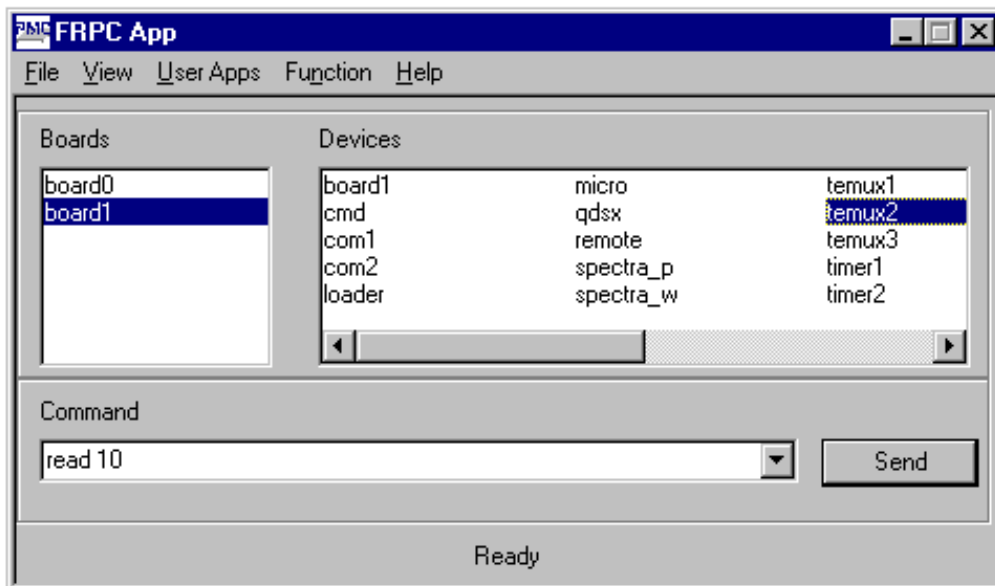

Figure 5 HostApp Main Window
Standard Windows file utility My Computer may be used to locate and start execution of the application file HostApp.exe. Figure 5 depicts the application main window.
- List of devices in the system grouped by boards (as shown on Figure 5)
This section describes the functionality provided by the Frame Relay Port Card HostApp. The main application window is shown in Figure 5.